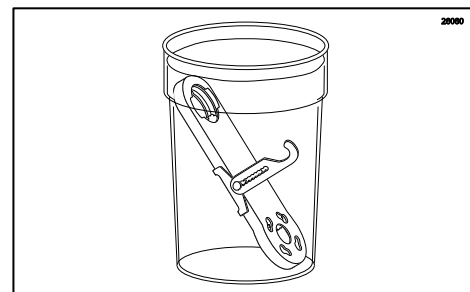

Figure 30
- Place the Drive Assembly Gear Box in warm water and soak for at least 5 minutes. Proceed with Steps 3 and 4 in the meantime. (See Figure 30.)